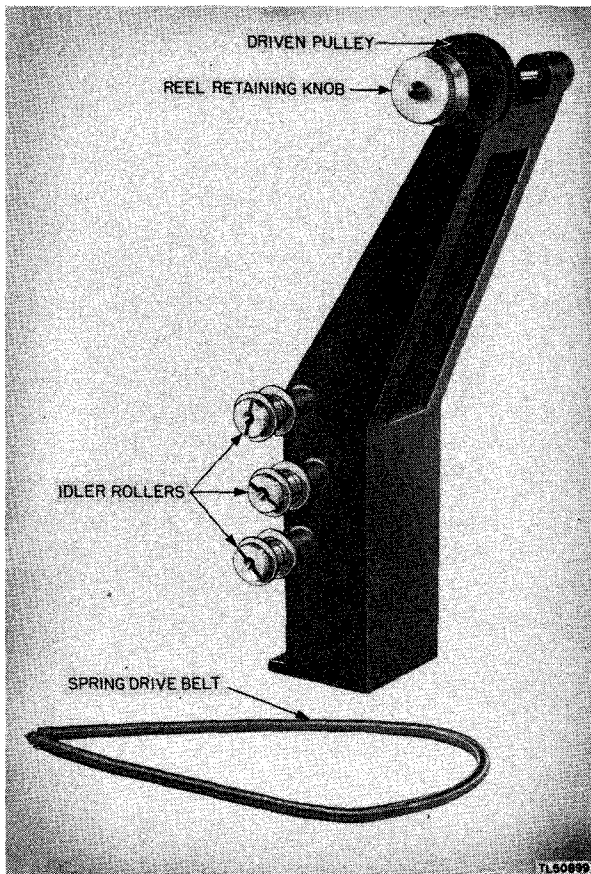

Figure 56. Rewinder reel attachment, type 4-FA.
c. The tape puller used to pull the recorder tape across the tape bridge, type 4-K, is equipped with the rewinder reel attachment, type 4-FA (fig. 56), which mechanically rolls up the transcribed tape.
d. A rewinder reel attachment (fig. 56), which is a tape reel fastened to a cast bracket. A steel spring belt turns the reel to rewind the tape. The reel holds an 8-inch roll of 3/8-inch wide recorder tape.